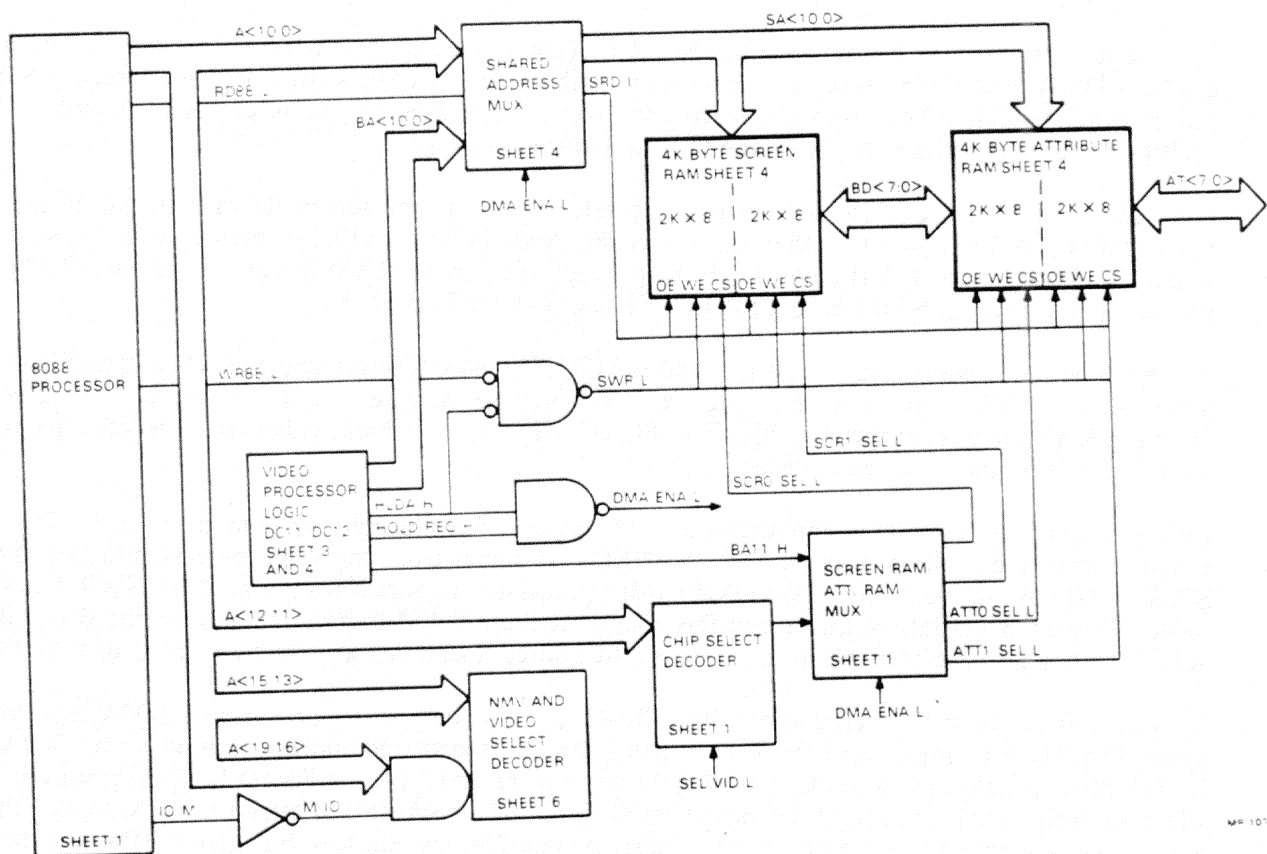

Figure 4-17 Screen RAM and Attribute RAM Control
4.4.5.5 4K Byte Screen RAM and 4K Byte Attribute RAM (Static) – The screen RAM and attribute RAM can be accessed by the 8088 processor or the video processor. The 8088 uses these memories to temporarily store the character and attribute (character, line, and screen) data to be displayed on the screen. The video processor directly accesses the memories (DMA) via its address bus to retrieve the stored character and attribute data and then converts the data into a video signal that the monitor uses to produce the screen display. Figure 4-17 is a block diagram that shows the memories and their relation to the 8088, the video processor, and the control logic.